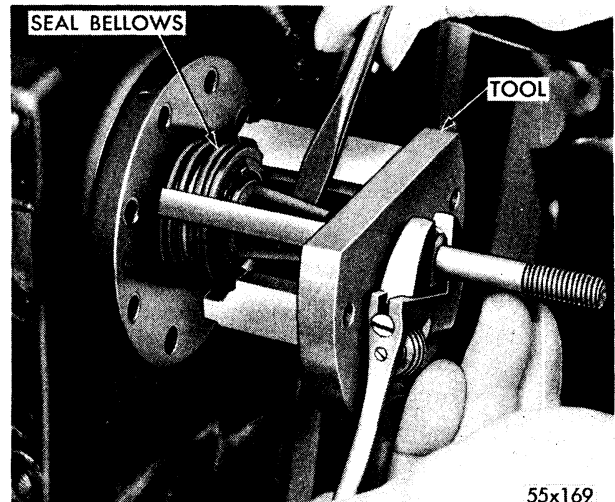
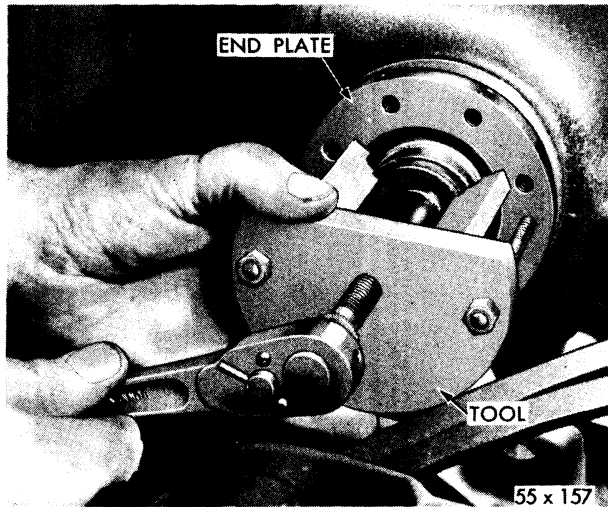

Fig. 17—Removing Seal Bellows
Fig. 18—Removing Bearing End Plate
- (3) Hold compressor shaft from rotating by placing screwdriver in shaft keyway slot and allow it to rest against pulley leg, while turning puller screw. (See Fig. 17.)
- (4) When bellows have compressed far enough to clear the snap ring retainer, remove snap ring with snap ring pliers.
- (5) Change puller screw in center of puller (Fig. 18). Turn in on center screw and remove compressor front bearing end plate and seal assembly.
- (6) Remove pulley from end plate. Remove carbon seal and "O" ring from bearing end plate.
- (7) Lubricate "O" ring in bellows with refrigerant oil and place bellows and snap ring over compressor shaft.
- (8) Install puller, as shown in Figure 17. Compress bellows with puller and at same time rotate the bellows assembly to insure proper alignment. **This will prevent pinching "O" ring which would result in a leaky seal.**
- (9) Install snap ring retainer when bellows clear groove in shaft. Remove puller. **Caution: Check the snap ring to be positive that it is securely seated in the shaft groove otherwise it may slip out and result in a leaky seal.**
- (10) Install brush holder assembly.
- (11) Install pulley and magnetic clutch assembly, lining up key and keyway.
- (12) Push assembly over shaft and install washer and self-locking bolt.
- (13) Tighten bolt to 20 foot-pounds torque. Back-seat both service valves and bleed air from compressor. Tighten oil filler plug.
- (14) Install protective caps and test for leaks.